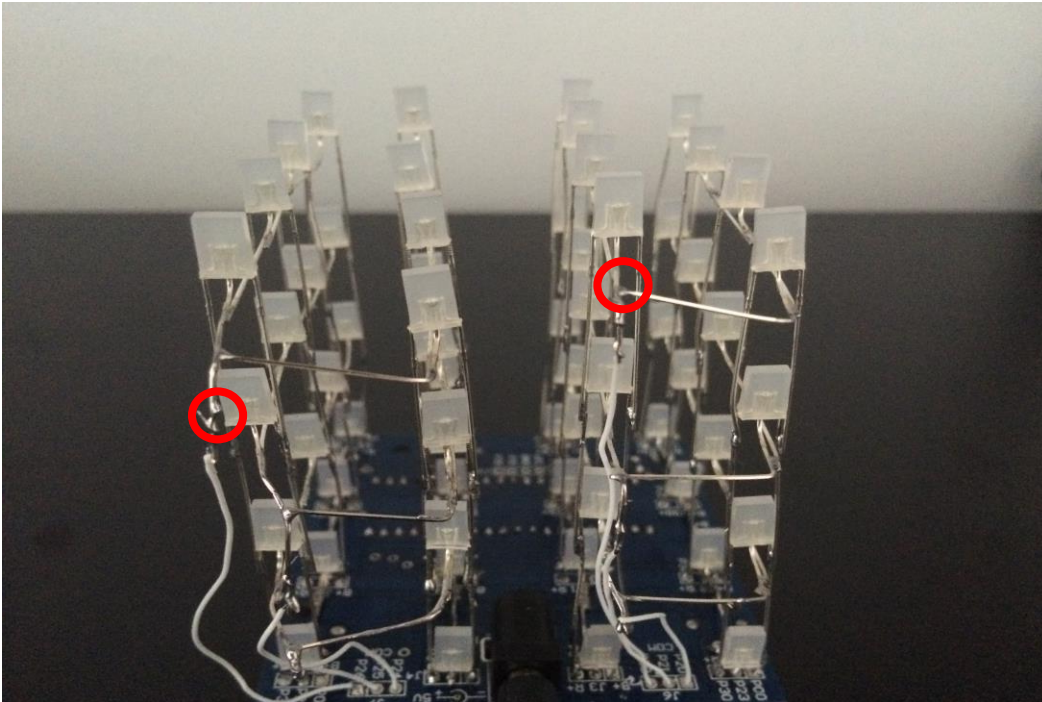

Figure 5: The correct soldering of the outer middle pins
10. Now, the non-soldered middle pins of each column of LED must be soldered to the non-soldered middle pins of their neighboring column, two by two just like a bridge. This can be seen in the Figure 5.
11. Finally, use three sets of wires per two columns. Solder one end of each wire to the board at the schematics marked COM and solder the other end to the middle lead of the matching LED row (for instance, wire attached to COM P24 must be attached to the first row of the first two columns and so forth, and COM P20 must be attached to the first row of the second two columns and so forth). The final outcome of this step can be seen in the Figure 5 above.